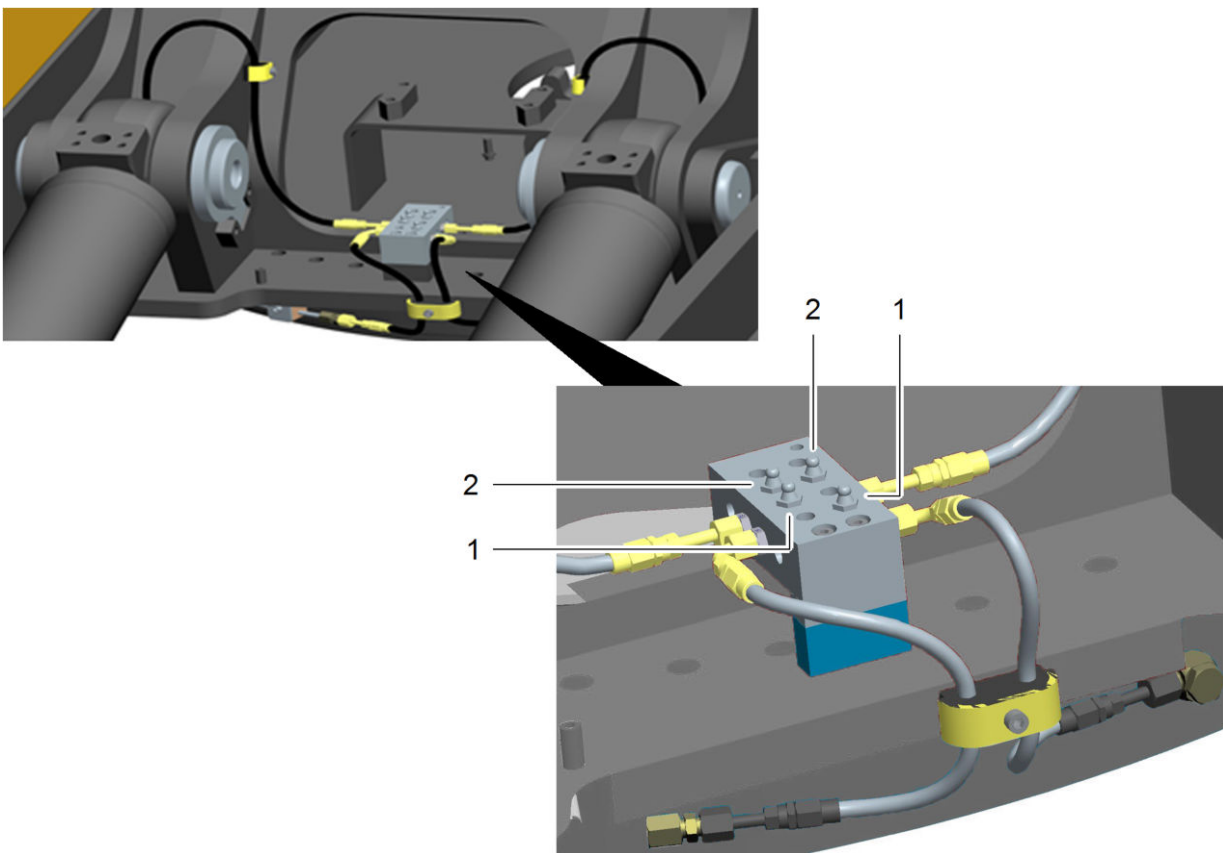
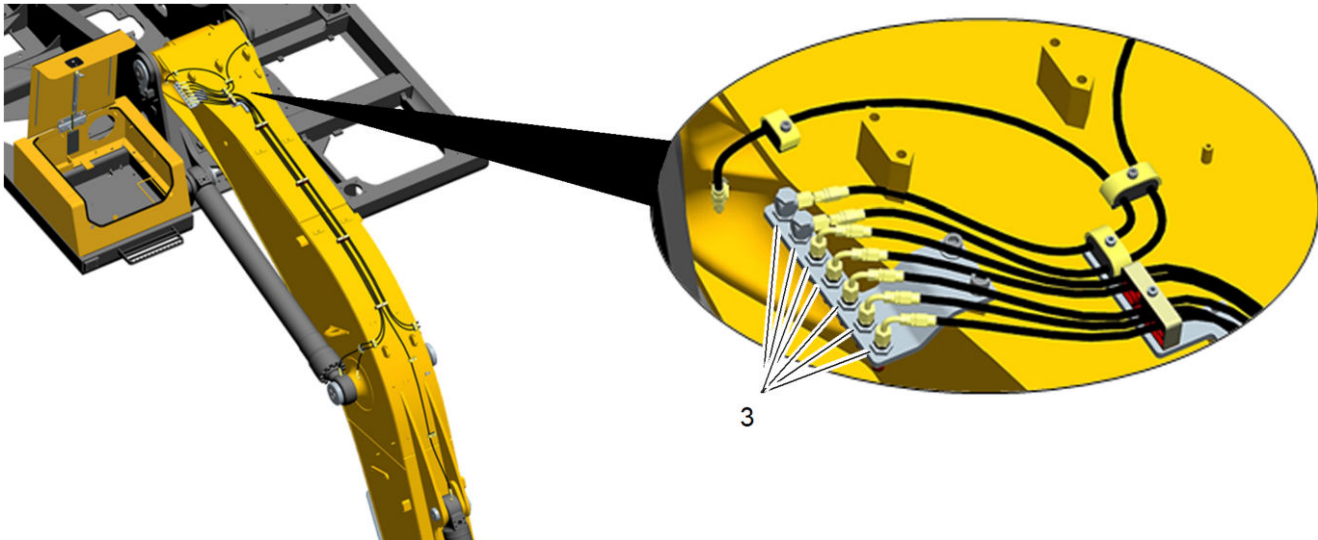
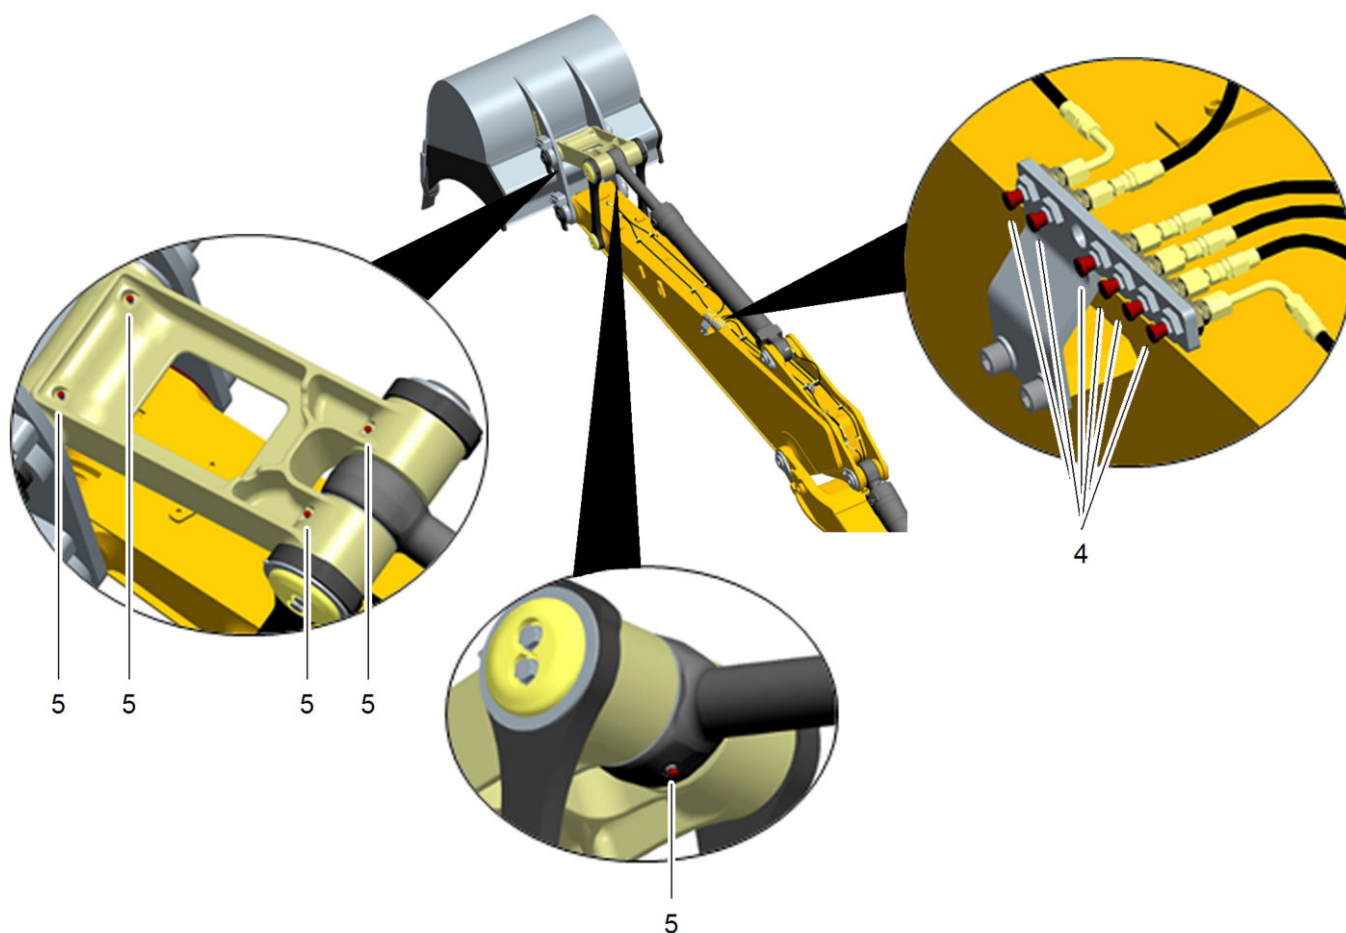

Fig. 317: Lubricating slewing ring and hoist cylinder bases
Fig. 318: Lubricating boom
Fig. 319: Lubricating stick and bucket
- Connect grease gun to lubricating points of the slewing ring **1** (see: fig. 317, page 203) .
- Grease lubricating points of the slewing ring **1** (see: fig. 317, page 203) with 20 grease gun thrusts.
- Lubricate lubricating points of the hoist cylinder bases **2** (see: fig. 317, page 203), lubricating points of the boom **3** (see: fig. 318, page 204), lubricating points of the stick **4** (see: fig. 319, page 205) and lubricating points of the bucket **5** (see: fig. 319, page 205) until clean grease emerges from the corresponding bearing.